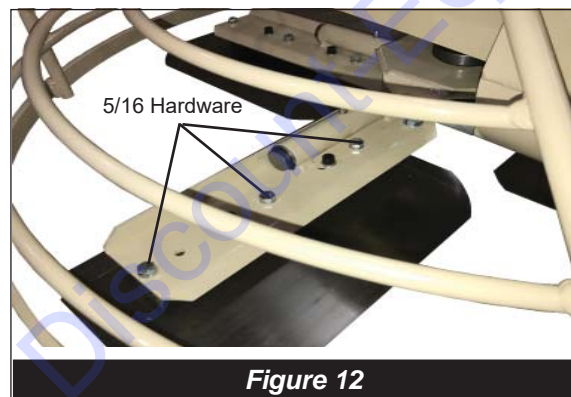

Figure 12
- Insert 5/16-18 hardware with lock washer through blade arm and adapter bar from above and tighten into blade arm (Figure 12).